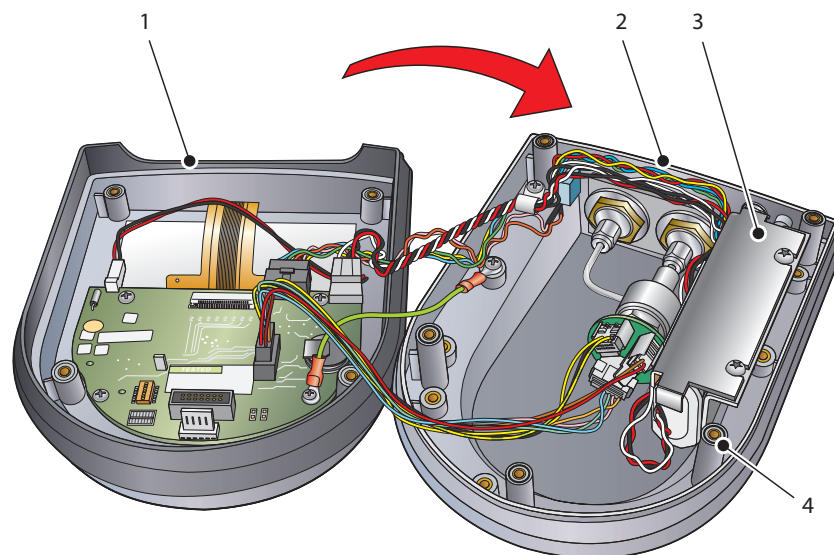

Figure 2 *Open Case*
5. Open the two halves of the casing. **NOTE: There is a seal between the two halves so the top and bottom halves may need to be eased apart. There should also be an O-ring (see *Figure 2, (4)*) on each of the five pillars - keep these safe for later use.**
6. Place the two halves of the casing (1) and (2) side by side (refer to *Figure 2*). Item (3) shows the battery retaining clamp.